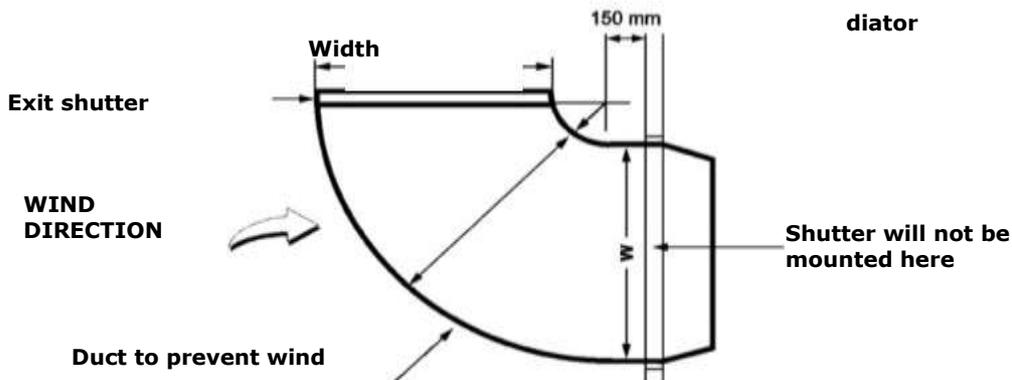

Figure 3.7
1. As shown in Figure 3.7, 90° duct can be mounted. In this case the air discharge shutters are going to be mounted at the duct exit. Additional precautions are required in this method for rain etc. weather conditions.